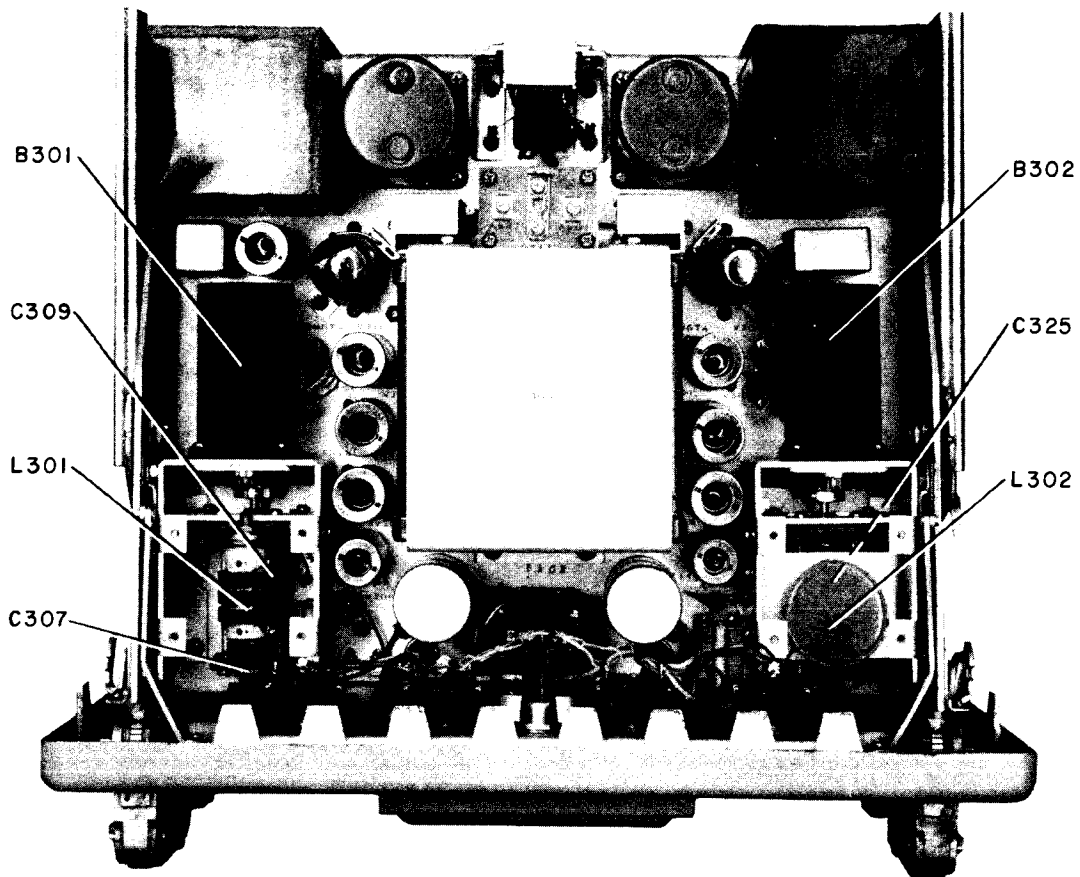

Figure 7-6. Identification of Motor-Tuning Capacitor Assembly Parts
a. REMOVAL OF THE AFC MOTOR AND TUNING CAPACITOR ASSEMBLIES.—The following sub-paragraph includes the instructions for the removal of the AFC motor and tuning capacitor assemblies. The tuning oscillator motor-capacitor assembly is located on the left front corner of the lower chassis assembly and the local oscillator capacitor assembly is located in the right front corner of the lower chassis assembly. See Figure 7-6.
(1) REMOVAL OF THE TUNING OSCILLATOR AFC MOTOR AND CAPACITOR ASSEMBLY.—The major components in this assembly are AFC motor
B301, variable tuning capacitor C309 and oscillator coil L301. Capacitor C307 is also located within this assembly. To remove the motor only, proceed as follows and consult Figures 7-6 and 7-15.
(2) REMOVAL OF THE LOCAL OSCILLATOR AFC MOTOR AND CAPACITOR ASSEMBLY.—The major components of this assembly are AFC motor B302, oscillator coil L302 and tuning capacitor C325. To remove the motor proceed in the following manner and consult Figures 7-6 and 7-15.